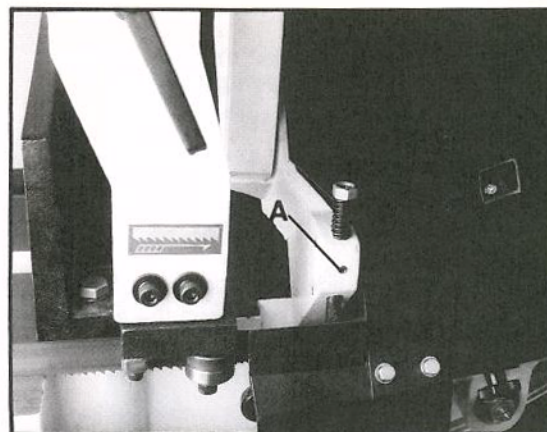

Fig. 5
4. Loosen set screw (A, Fig. 5) and lower the blade cleaning brush,